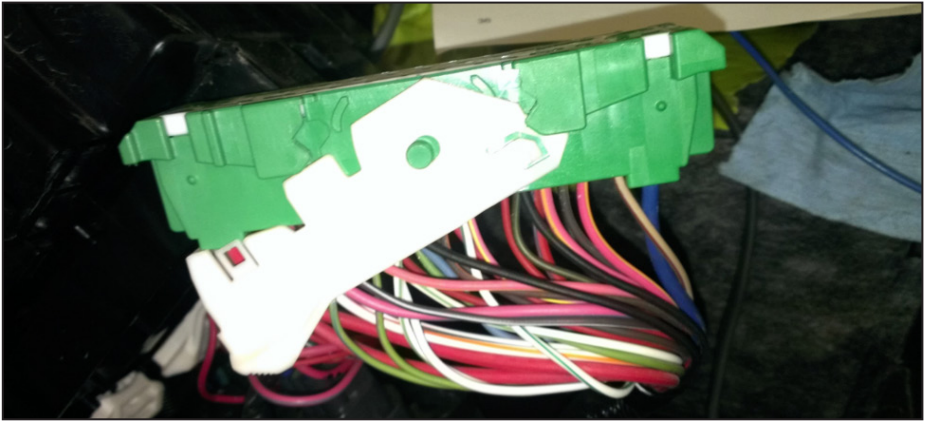

Figure 41 — Accessing PDC connectors
- The connector will pull out of the fuse box (Figure 41).